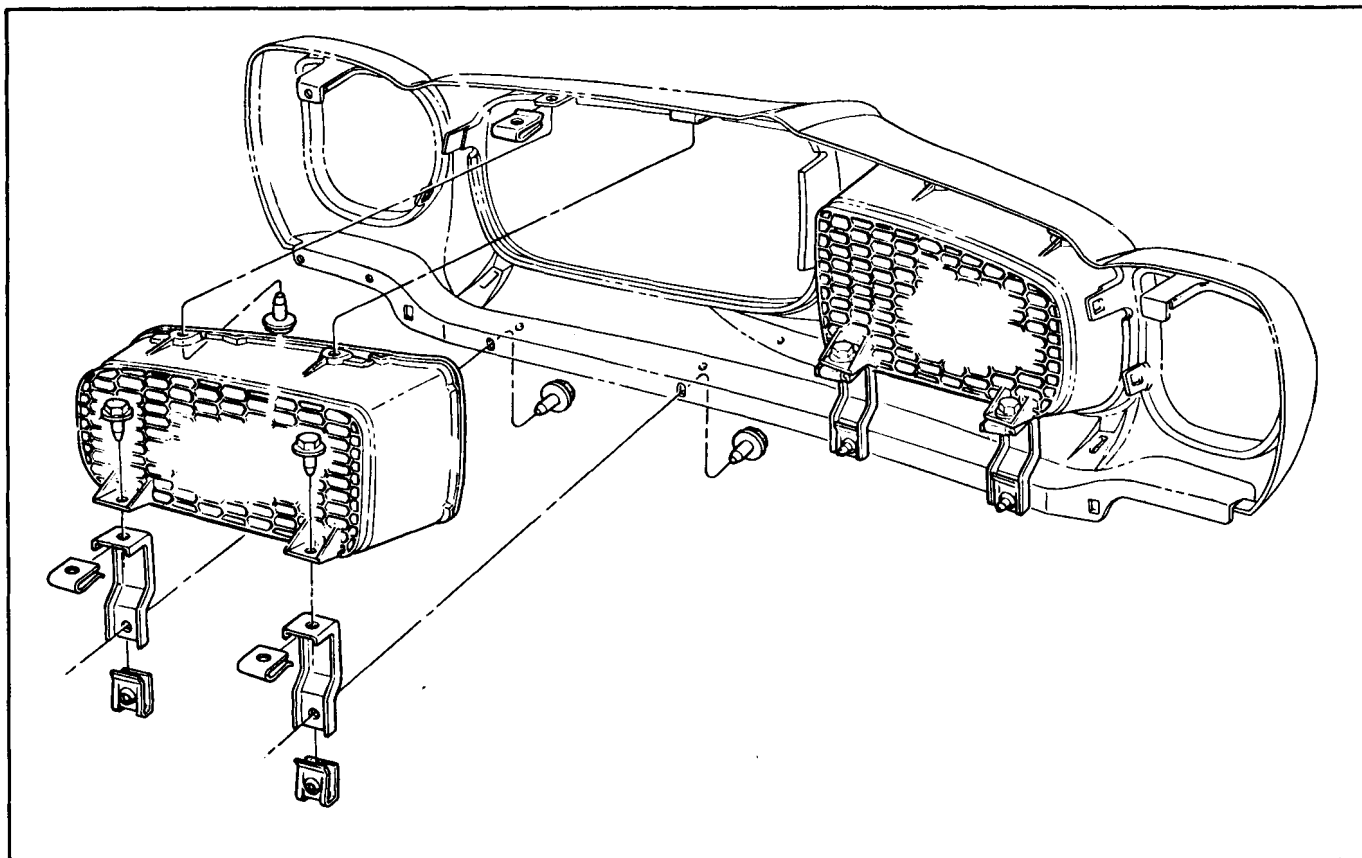

Fig. 14-12 F Series Grille Assembly
6. Remove grille assembly (Fig. 14-12).